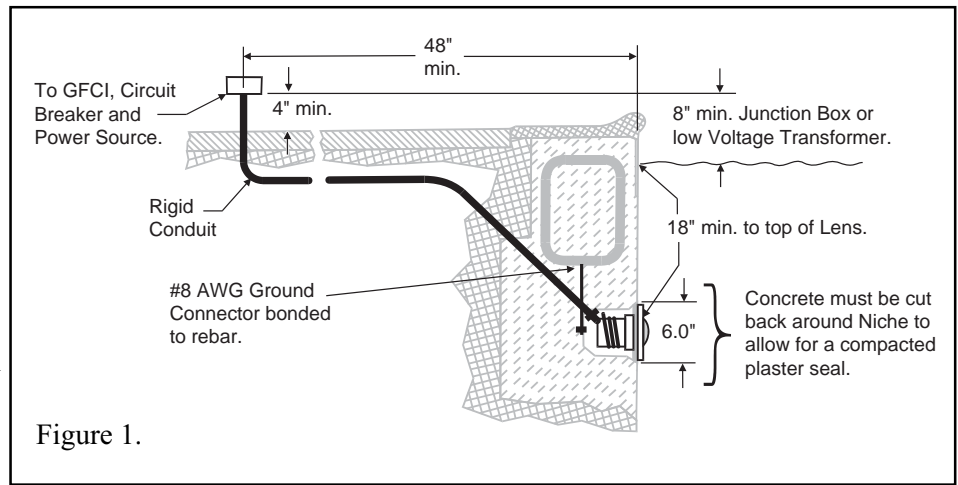

Figure 1.
- A. The electrician must complete preparatory steps before light fixture is installed; see Figure 1.
- b. The Junction Box (or, for 12 volt models, the low voltage transformer) must be located at least eight (8) inches above water level, at least four (4) inches above ground level, and at least 48 inches from the edge of the pool; see Figure 1.
- c. The light fixture and all metal items within five (5) feet of the pool must be properly electrically bonded.
- d. The wet niche must be properly installed so that the top edge of the underwater light's lens is at least 18 inches below the surface of the water in the pool; see Figure 1.
- e. The wet niche must be properly electrically bonded and grounded via the No. 8 AWG ground connector located at the rear of the niche; see Figure 1.
- 1. Feed cord through conduit to Junction box, leaving at least four (4) feet of cord at the light fixture to coil around the light; see Figure 1. This four (4) feet of cord around the light allows the light to be serviced after the pool is filled with water.
- 2. Cut the cord at the Junction Box, leaving at least six (6) inches of cord to make connections.
- 3. Strip six (6) inches of the outer cord jacket to expose the three insulated wires. Be careful not to damage the insulation on the three (3) inner wires.
- 4. Connect all three (3) wires to the corresponding circuit wires in the Junction Box, and secure the Junction Box cover in place.
- b. The Junction Box (or, for 12 volt models, the low voltage transformer) must be located at least 8 inches above ground or water level, at least four (4) inches above ground level, and at least 48 inches from the edge of the pool; see Figure 1.
5. Leave at least 4 feet of cord to coil around the light fixture; see Figure 1. This 4 feet of cord coiled around the light allows the light to be serviced after the pool is filled with water.